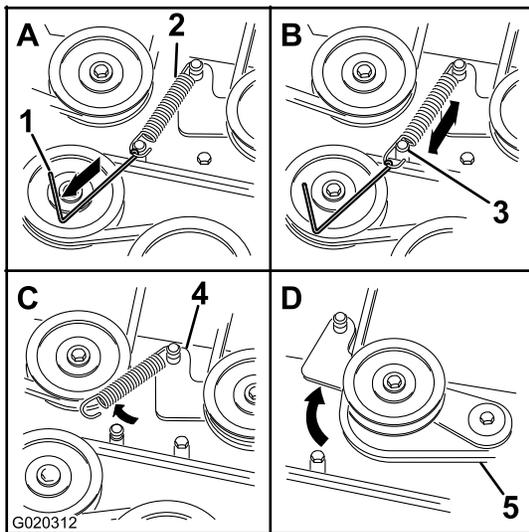

Figure 69
5. Using a spring removal tool (Toro part no. 92-5771), remove the idler spring from the deck post to remove tension on the idler pulley (Figure 69).
1. Install the new belt around the mower pulleys and the clutch pulley under the engine (Figure 69).
2. Using a spring removal tool (Toro part no. 92-5771), install the idler spring over the deck post and place tension on the idler pulley and mower belt (Figure 69).